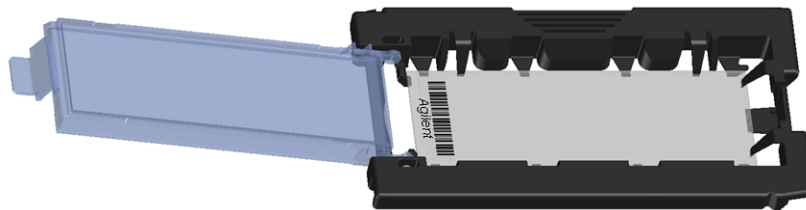

Figure 8 Slide inserted in slide holder
- d Gently lower the slide into the slide holder. See Figure 8.